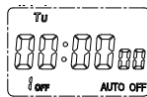

Figure 10
6.2.3.2  $I_{ON}$  (first switch-on) time setting: press “◀”, “▶” and “▽” respectively to set  $I_{ON}$  time and date mode, after setting, press “MD” to enter  $I_{OFF}$  (first switch-off) time and date mode setting, see Figure 10.